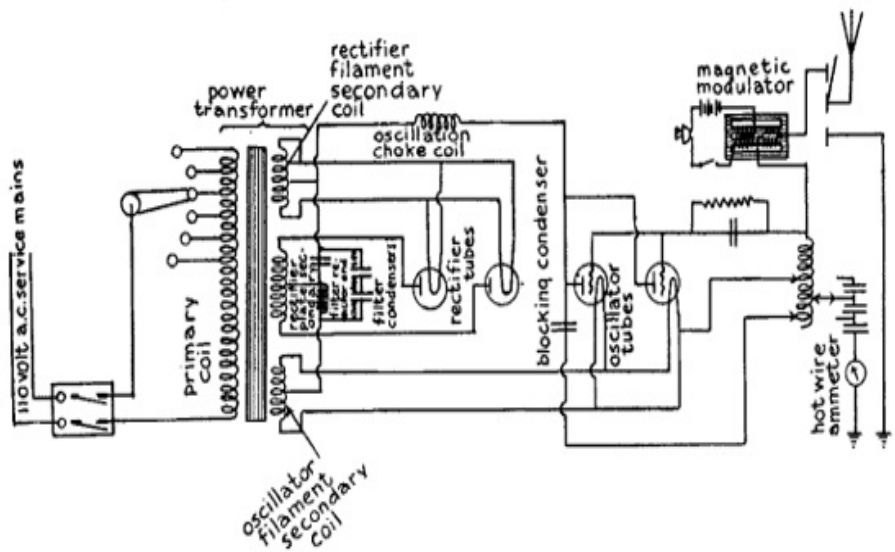

FIG. 93.—100 to 200 Mile Wireless Telephone Transmitter.
Connecting Up the Apparatus.--The wiring diagram in *Fig. 93* shows how the various pieces of apparatus for this telephone transmitter are connected up. You will observe: (1) that the terminals of the power transformer secondary coil which develops 10 volts are connected to the filaments of the oscillator tubes; (2) that the terminals of the other secondary coil which develops 10 volts are connected with the filaments of the rectifier tubes; (3) that the terminals of the third secondary coil which develops 550 volts are connected with the plates of the rectifier tubes; (4) that the pair of filter condensers are connected in parallel and these are connected to the mid-taps of the two filament secondary coils; (5) that the reactance coil and the third filter condenser are connected together in series and these are shunted across the filter condensers, which are in parallel; and, finally, (6) a lead connects the mid-tap of the 550-volt secondary coil of the power transformer with the connection between the reactor and the third filter condenser.
*A 100 to 200 Mile Wireless Telephone Transmitting Set--With 110 Volt Alternating Current.--*This telephone transmitter is built up of exactly the same pieces of apparatus and connected up in precisely the same way as the one just described and shown in *Fig. 93*.
*Apparatus Required.--*The only differences between this and the preceding transmitter are: (1) the *magnetic modulator*, if you use one, should have an output of $3\frac{1}{2}$ to 5 amperes; (2) you will need two 50 watt oscillator tubes with sockets; (3) two 150 watt rectifier tubes with sockets; (4) an aerial ammeter that reads to 5 amperes; (5) three 1 mfd. filter condensers in parallel; (6) two filter condensers of 1 mfd. capacitance that will stand 1750 volts; and (6) a 300
The apparatus is wired up as shown in *Fig. 93*.
The Operation of Microphone Modulators--The Induction Coil.--This device is really a miniature transformer, see *A* in *Fig. 86*, and its purpose is to change the 6 volt direct current that flows through the microphone into 100 volts alternating current; in turn, this is impressed on the oscillations that are surging in either (1) the grid circuit as shown at *A* in *Fig. 89*, and in *Fig. 90*, (2) the aerial wire system, as shown at *B* in *Fig. 89* and *Fig. 93*. When the current from the battery flows through the primary coil it magnetizes the soft iron core and as the microphone varies the strength of the current the high voltage alternating currents set up in the secondary coil of the induction coil are likewise varied, when they are impressed upon and modulate the oscillating currents.
The Magnetic Modulator.--This piece of apparatus is also called a *magnetic amplifier*. The iron core is formed of very thin plates, or *laminations* as they are called, and this permits high-frequency oscillations to surge in a coil wound on it. In this transformer, see *A* in *Fig. 88*, the current flowing through the microphone varies the magnetic permeability of the soft iron core by the magnetic saturation of the latter. Since the microphone current is absolutely distinct from the oscillating currents surging through the coil of the transformer a very small direct current flowing through a coil on the latter will vary or modulate very large oscillating currents surging through the former. It is shown connected in the aerial wire system at *A* in *Fig. 88*, and in *Fig. 93*.
in *Fig. 93*. When this is done the plates will be positively charged alternately with every reversal of the current in which case there will be no break in the continuity of the oscillations set up and therefore in the waves that are sent out.